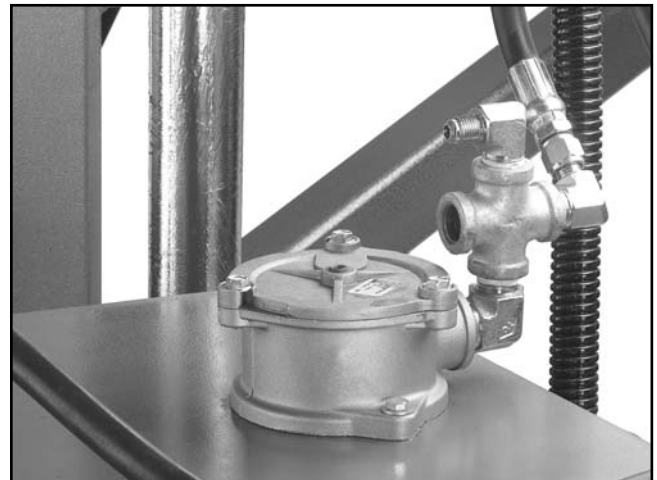

Figure 29. Hydraulic lines and fitting removed from above the filter cap.
2. Disconnect the two hydraulic lines that are over the filter cap and remove the pipe fitting so there is clear access directly over the filter cap, as shown in **Figure 29**.